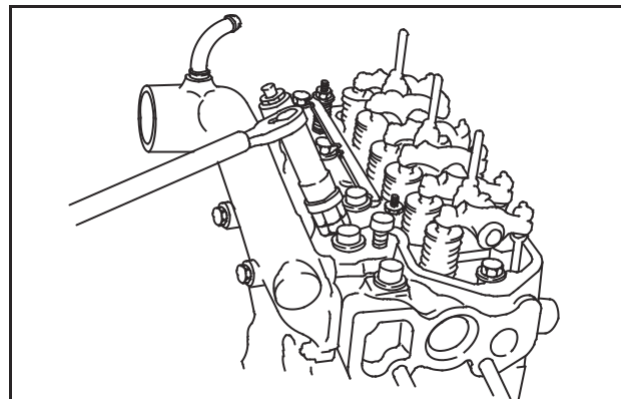

Fig. 13 – Removing Injectors
4. Remove injector nozzles, Fig. 13.